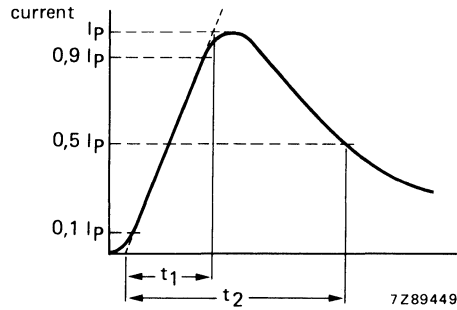

Fig. 5.
6. High energy surges are generally of longer duration. The max. energy for 1 minute 10/1000 μ s is given as a reference for long duration impulses. This impulse can be characterized by peak current I_p and impulse width t_2 (virtual time to half I_p value, defined in IEC 60-2 section 6), see Fig. 5. If V_p is the clamping voltage corresponding to I_p , the energy absorbed in the VDR is determined by equation $E = K \cdot V_p \cdot I_p \cdot t_2$; K depends on t_2 . When t_1 is 8 to 10 μ s and $t_2 = 20 \mu$ s, $K = 1$; when $t_2 = 50 \mu$ s, $K = 1,2$; when $t_2 = 100 \mu$ s, $K = 1,3$; when $t_2 = 1000 \mu$ s, $K = 1,4$.